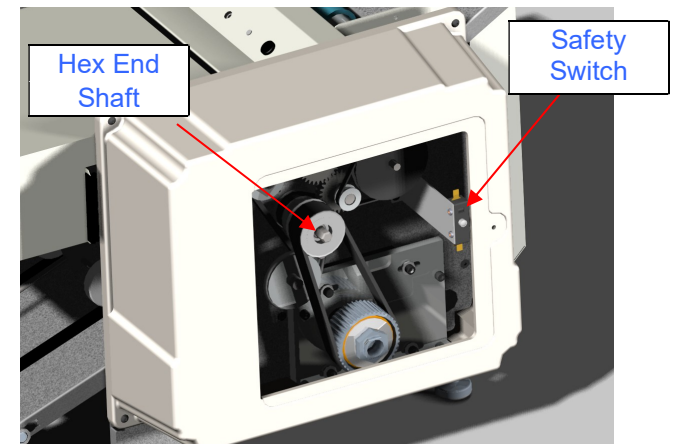

Figure 14: Access Door Open
3. Ensure the **drive train cover** is in place and the **safety switch** is engaged. [See Figure 14]
4. Insert the $\frac{7}{16}$ " socket at the end of the breaker bar over the **hex end roll** [see Figure 14]. This bar can now be used to rotate the **rolls**.